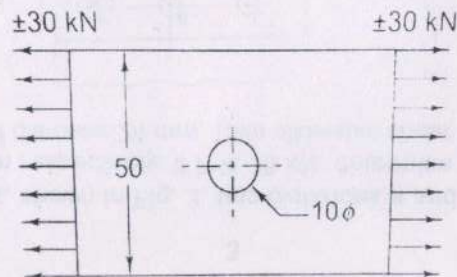

Fig. 1 (Dimensions in mm)
- A plate made of steel 1020 in hot rolled condition is shown in Fig. 1. It is subjected to a completely reversed axial load of 30 kN. Considering the expected reliability as 90% and the factor